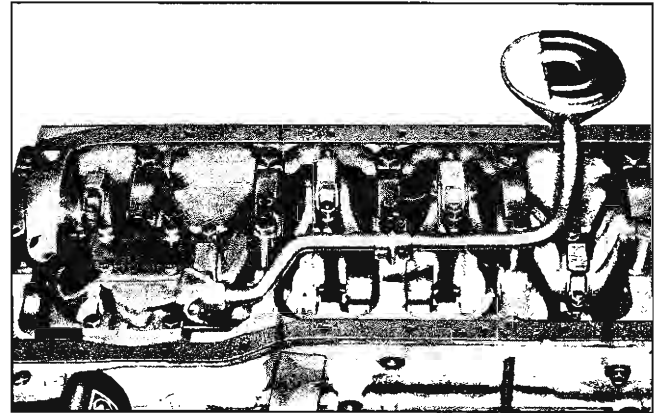

Fig. 45—Oil Pump Installed
4. Remove two flange mounting bolts, pickup pipe service bolt, and remove pump and screen as an assembly (fig. 45).